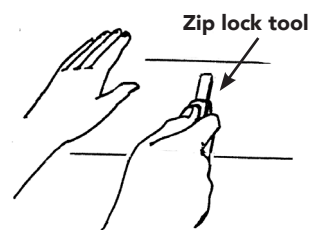

Figure 74
- Slip the zip lock or unlocking tool behind the bottom of the panel above the one to be replaced and unzip it from the lock on the damaged panel (Figure 74).